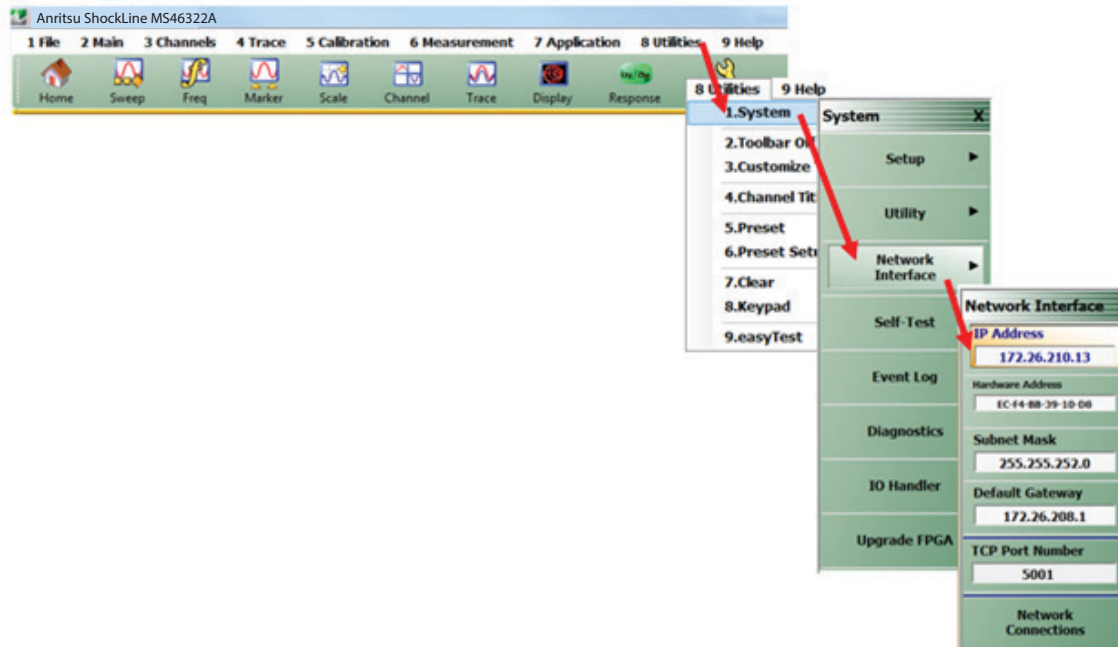

**Figure 1-10.** IP Address Menu Navigation Path
9. Navigate to the IP Address in the Network Interface menu. See Figure 1-10.